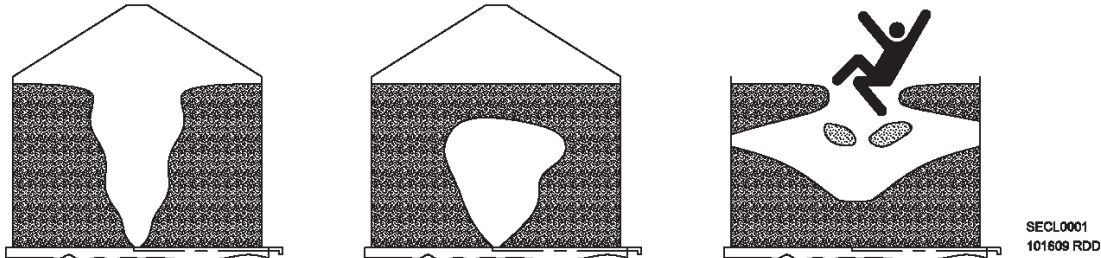

Fig. 1 – Obstructed-flow, bridged grain, collapsed bridge of grain in bin
**IMPORTANT:** A bin floor itself is not a hazard, but grain stored in bin and unload equipment installed in bin can create hazardous situations. Fig. 1 shows dangers of grain stored in bin, including obstructed flow, bridged grain, and collapse of bridged grain, all of which can engulf a person in bin. Obstructions or bridging should be removed by means other than entering bin.